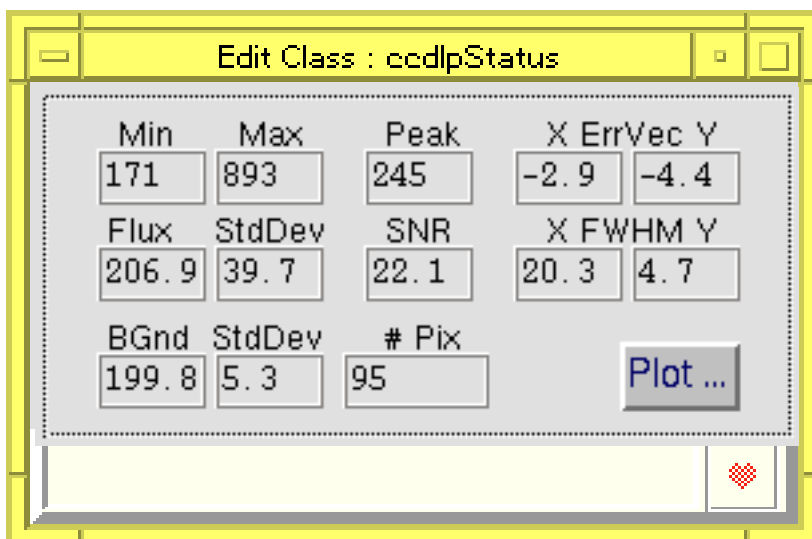

Fig.4 Real-time image processing status GUI class
4. ***ccdIpStatus_uifClass***. It displays the status of real-time image processing on LCU. See also Fig.4 and manual page at section 3.4.